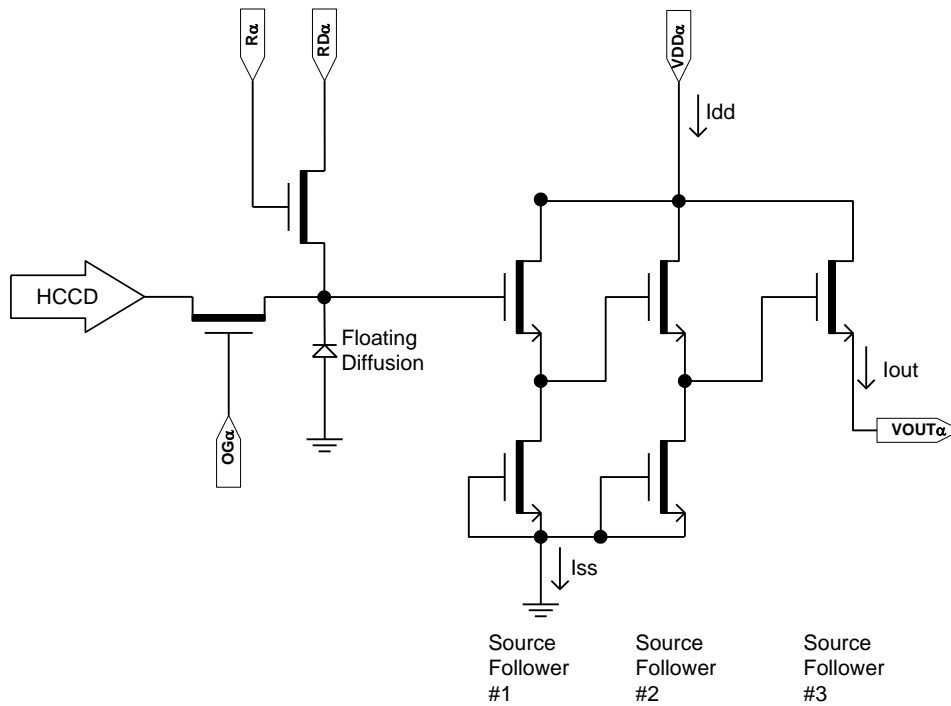

Figure 12: Output Amplifier
2. The maximum DC current is for one output. $I_{dd} = I_{out} + I_{ss}$. See Figure 12.